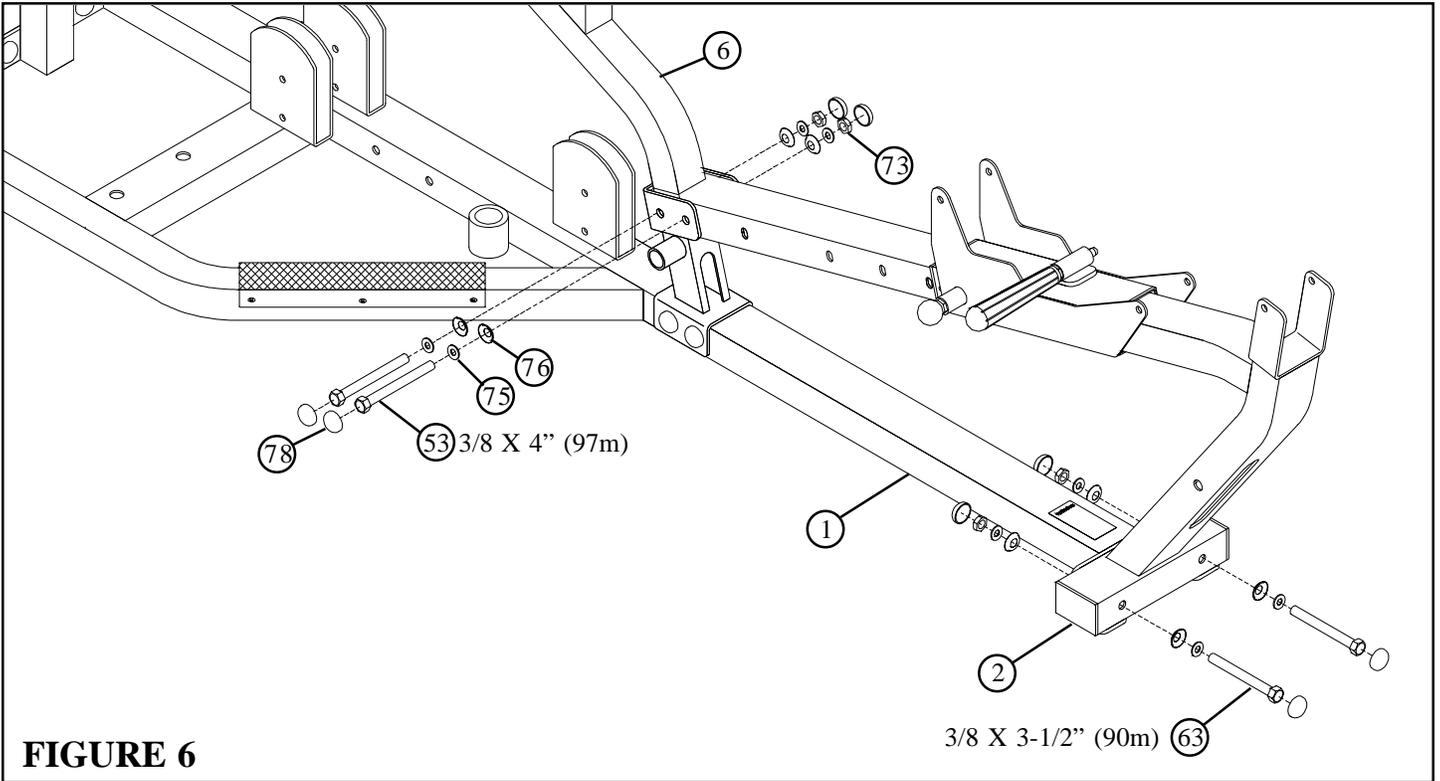

**FIGURE 5**
- Pull back on the SPRING PIN and slide the ADJUSTABLE SEAT (12) over the BENCH FRAME (2) as shown in FIGURE 5.